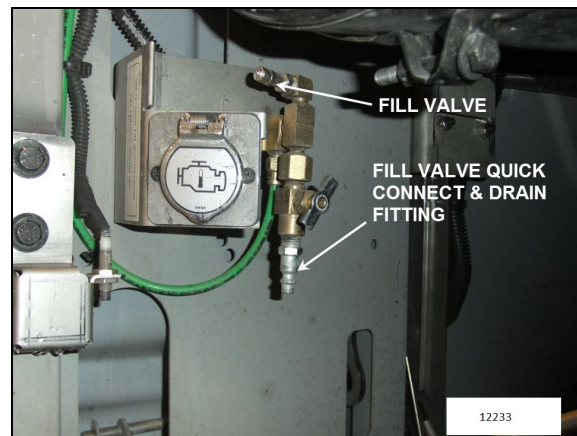

FIGURE 13: REAR VALVE LOCATION (TYPICAL)
The air dryer and wet tank may be purged simultaneously for maintenance purposes using the drain cock on the emergency air system fill valve located in the engine compartment and accessible through the engine compartment R.H. side door (Figure 13).
1. Release air dryer pressure by opening the air dryer drain valve (Figure 13).